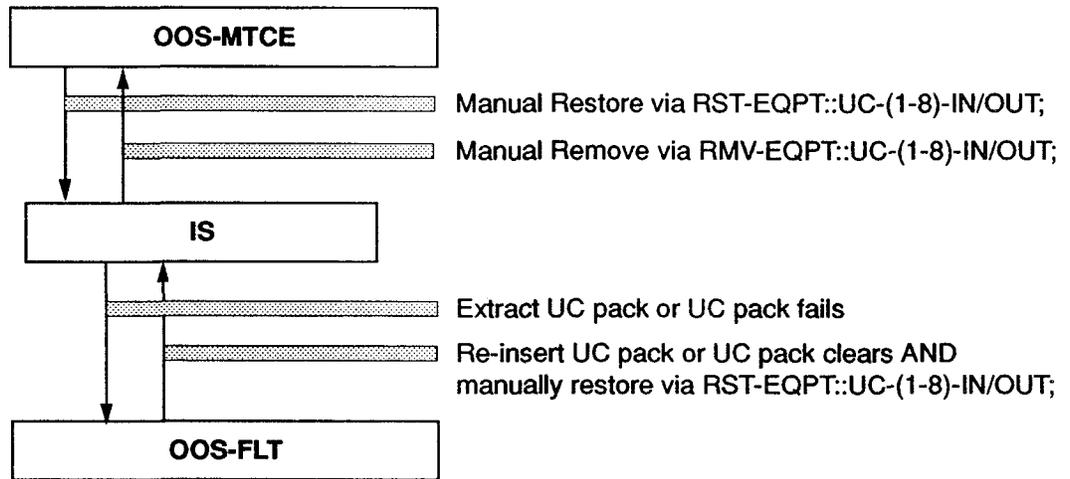

Figure D-2. Unit Controller States
- Figure D-2: Unit Controller States